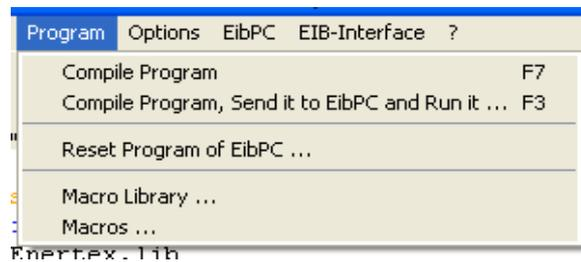

Figure 21: Compiling user program, send to EibPC and start
A user program must be compiled, transferred to the Enertex® EibPC and started. As depicted in Figure 21, you can separately perform these steps in the menu PROGRAM, press the Ctrl+Shift+B shortcut or the button . The program will be transferred and started. The status display (see Figure 13) of the transfer process is shown. Dependent on the program size, the transfer and running and start of the user program takes 1 to 5 seconds.
1. Select the item "Reset program of EibPC ..." in the menu PROGRAM (see Figure 21).